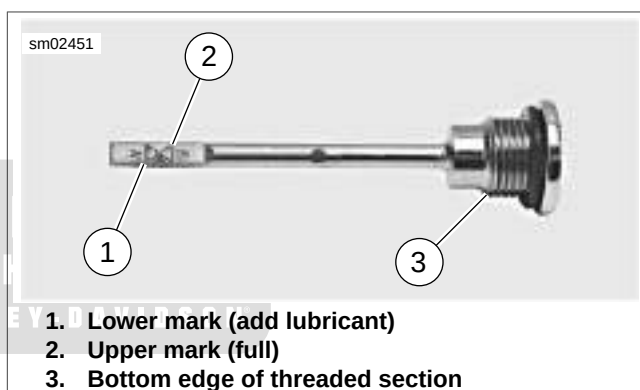

Figure 1-18. Filler Plug/Dipstick
- b. See Figure 1-18. Remove filler plug/dipstick and check lubricant level on dipstick. Lubricant level should be between upper mark (2) and lower mark (1). If necessary, add lubricant until level is correct.